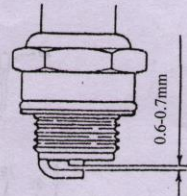

Fig. 16
(1) After the operation each day, wash the filter, if the chemicals adhere to sponge, it would deduce the engine power, please pay attention especially.
(2) After wash the sponge with petrol, squeeze the petrol then fix the sponge in.
(3) The suitable clearance of sparking plug is 0.6—0.7mm, please check the clearance often, if it is too big or too small, adjust it properly, as shown in Fig. 16.
(4) The sparking plug model of this machine is 4106J. Do not use other model. If it is necessary for change, you may buy it from local agricultural machinery department or plant protection department.